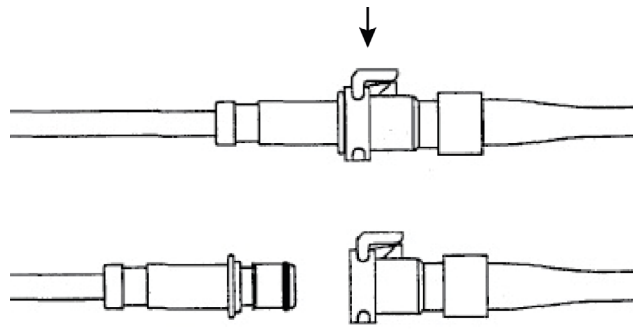

Figure 1-8: Disconnecting couplings
2. To disconnect, press down on the thumb tab (A) of the female coupling. The couplings will partially disconnect.
3. Pull the male coupling out to disconnect (Figure 1-8 on page 11).